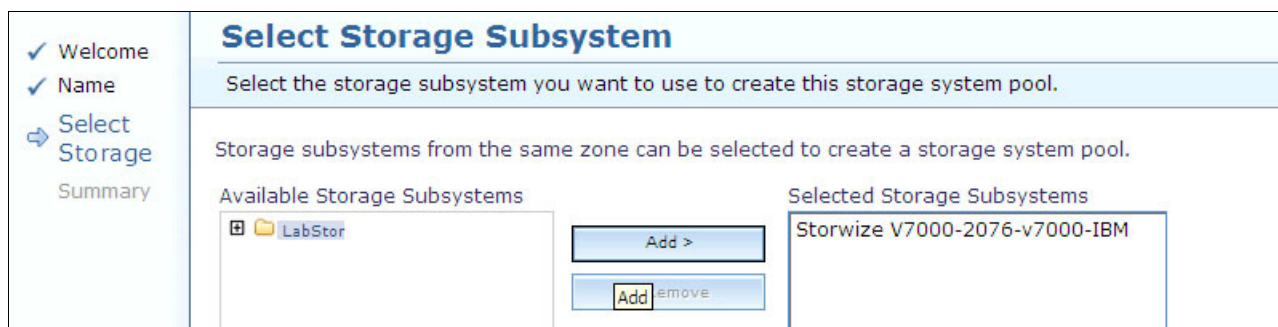

Figure 9-61 Select Storage Subsystem window
4. Select the storage subsystem that you want to assign to the storage system pool, click **Add**, as shown in Figure 9-61, and then click **Next**.